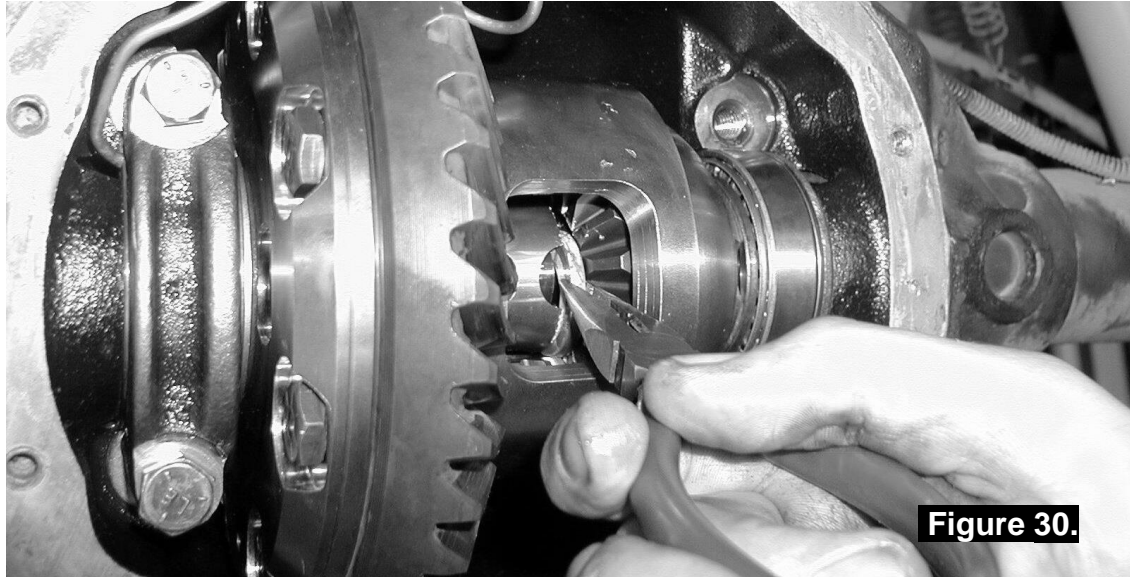

Figure 30.
- Using needle nosed pliers, insert one of the 'C' clips onto the groove in the axle shaft by sliding it between the spider block and a side gear. (Refer to Figure 30.)